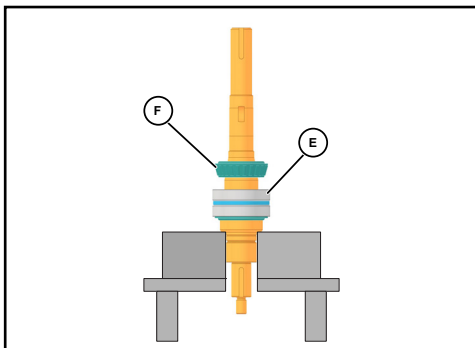

Figure 52 - Upper Cup & Upper Cone
7. Place the upper cup (Figure 52, item E) on top of the outer spacer.
8. Lubricate the remaining upper cone and roller assembly (Figure 52, item F) with oil or grease and slip it over the shaft with the roller radius facing up. Press it onto the shaft and into the upper cup.